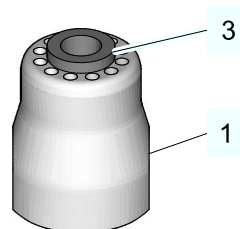

Fig.7: Inlet and seal ring
2. Insert the seal ring (3) into the inlet until it stops, fig. 7.